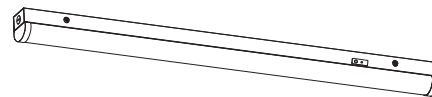

Figure 14
Step3. Connect the wires according to the wiring instructions and assemble the disassembled lamp back. (Figure 14)